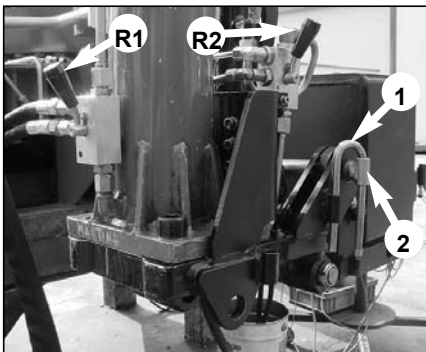

fig. 12
- **rotation of the outrigger ram n°1 from the rest position (fig. 12) to the working condition (fig. 14)**